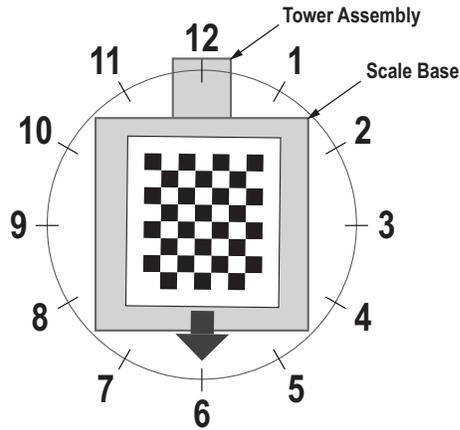

Figure 5-10. Rotate to 6 o'clock
- Align calibration object so the cross hairs are centered. Rotate the calibration object to 6 o'clock with the tower assembly being at 12 o'clock (Figure 5-10).